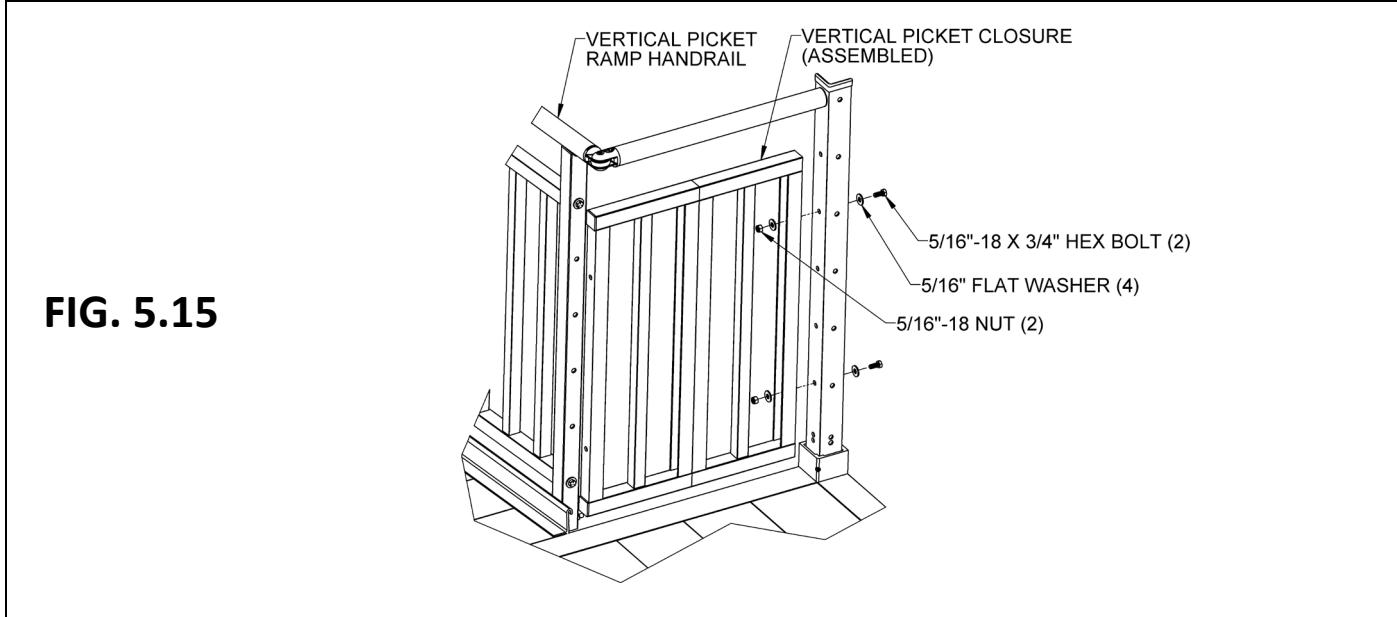

FIG. 5.15
- 5.6.4. Attach the Vertical Picket Closure to the platform handrail post using 5/16"-18 x 3/4" long hex bolts, 5/16" flat washers, and 5/16"-18 nuts (FIG. 5.15). When centering the ramp, attach one section (unassembled) to the platform posts on both sides of the ramp and secure in the same manner.